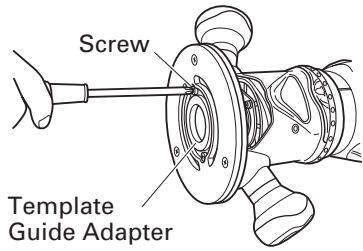

Fig. 8
(1) Loosen the 2 template guide adapter screws, so that the template guide adapter can be moved. (Fig. 8)